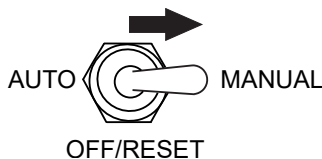

Figure 86. Auto Start/Stop Switch
2. While keeping the **Hour Check button** pressed, place the **Auto Start/Stop switch** (Figure 86) in the **MANUAL** position.